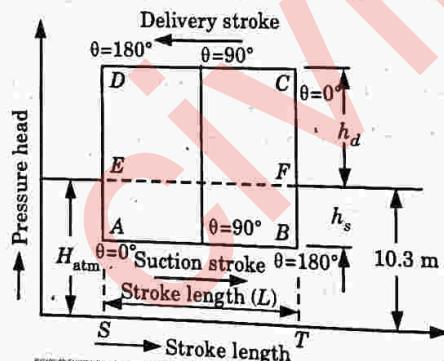

Fig. 4.10.1. Ideal indicator diagram.
- As shown in Fig. 4.10.1, different notations are taken as :